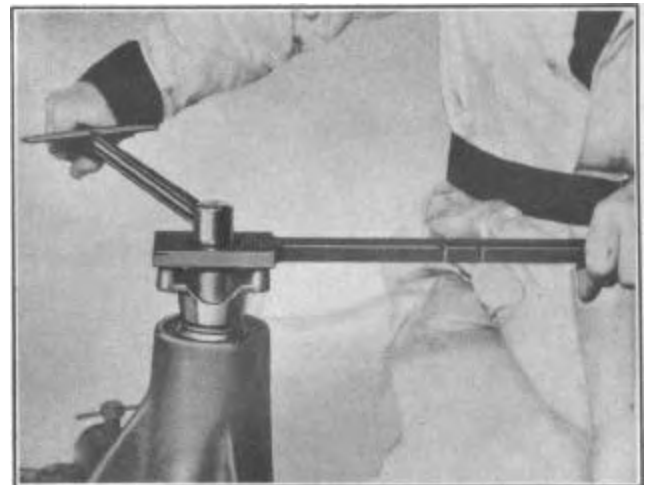
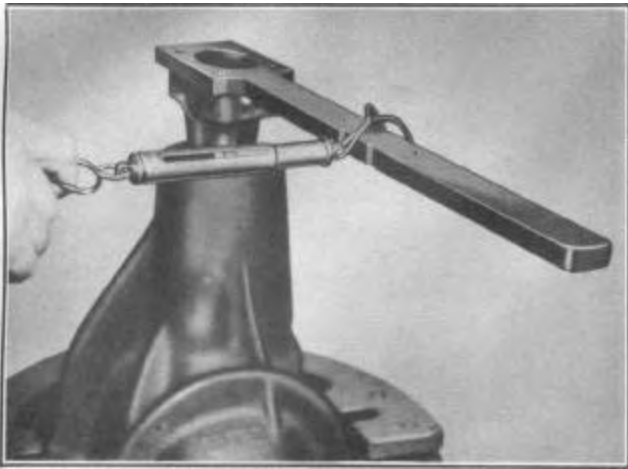

FIGURE 26
FIGURE 27
9. Holding companion flange with flange holding tool, J-2637 as shown in Figure 26, tighten pinion shaft nut with a torque wrench, to 200 foot pounds. Drive pinion shaft bearing resistance torque should then equal 17 to 32 inch pounds, Figure 27.